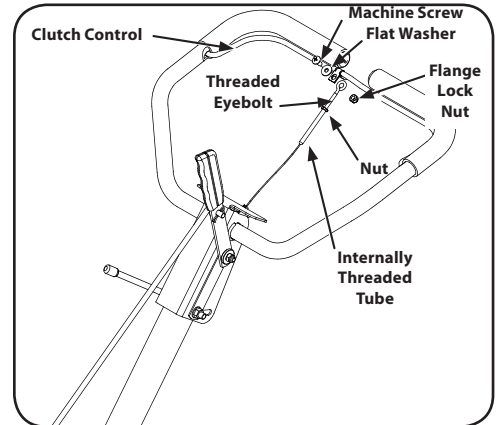

Figure 2-8
- Remove the machine screw, flange lock nut and washer from the clutch control. See Figure 2-8.
- Thread the eyebolt and nut removed earlier into the internally threaded tube at the end of the cable. Thread engagement should be about 3/4". Tighten the nut against the tube at the end of the cable. See Figure 2-8.